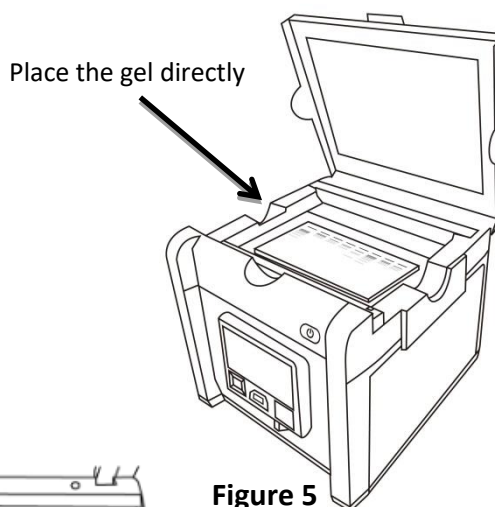

Figure 5
7. Place gel directly on the surface of the Lighting area (**Figure 5**).